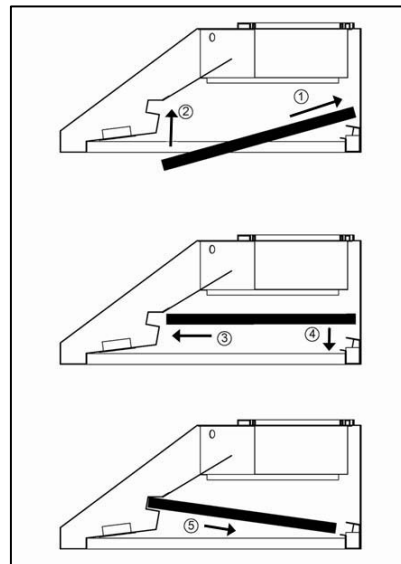

Figure 31
2. Refer to Figure 31. ① Slide the baffle filter into the hood. ② Push the baffle filter upward. ③ Slide forward. ④ Pull downward. ⑤ Fit into place.